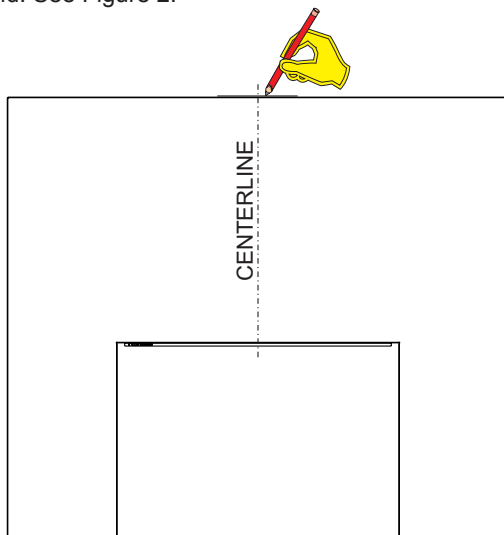

Figure 2
2. Lightly mark the wall on the at the center. Remove the surround. See Figure 2.